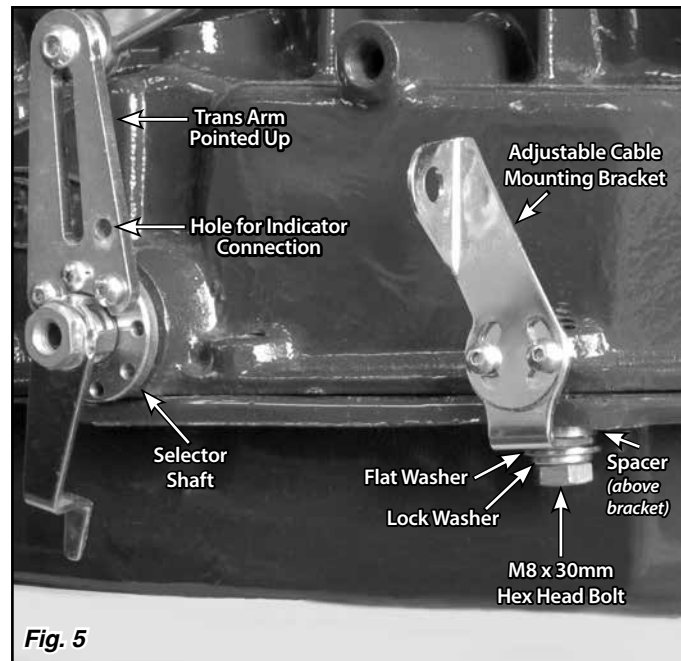
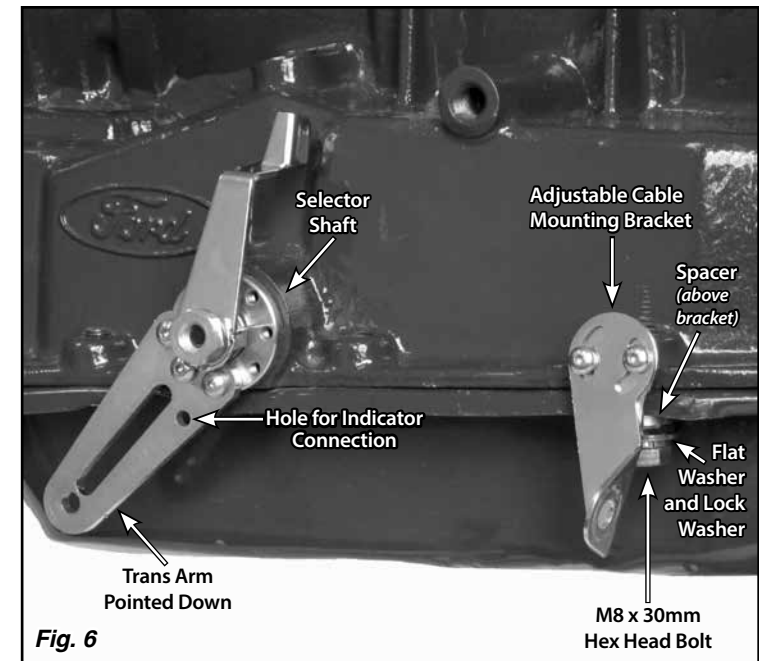

Fig. 5
Fig. 6
Step 2: Remove the second pan bolt to the rear of the selector shaft. Install the adjustable cable mounting bracket there using the provided M8 x 30mm hex head bolt, lock washer, flat washer, and spacer. **Fig. 5 and Fig. 6**
- **With a Lokar selector shaft:** The trans arm has a 3/16" diameter hole in it for the indicator cable to connect to. Make sure this hole is to the rear of the slot in the trans arm. If it is not, remove the trans arm and re-install it with the 3/16" hole to the rear of the slot in the trans arm. **Fig. 5 and Fig. 6**